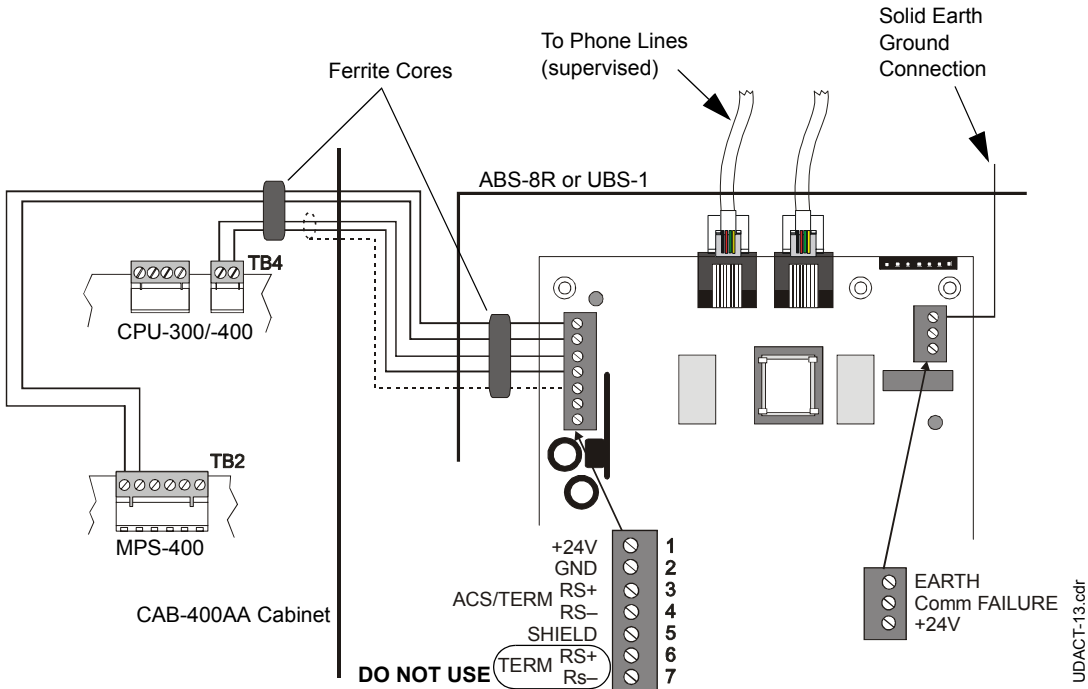
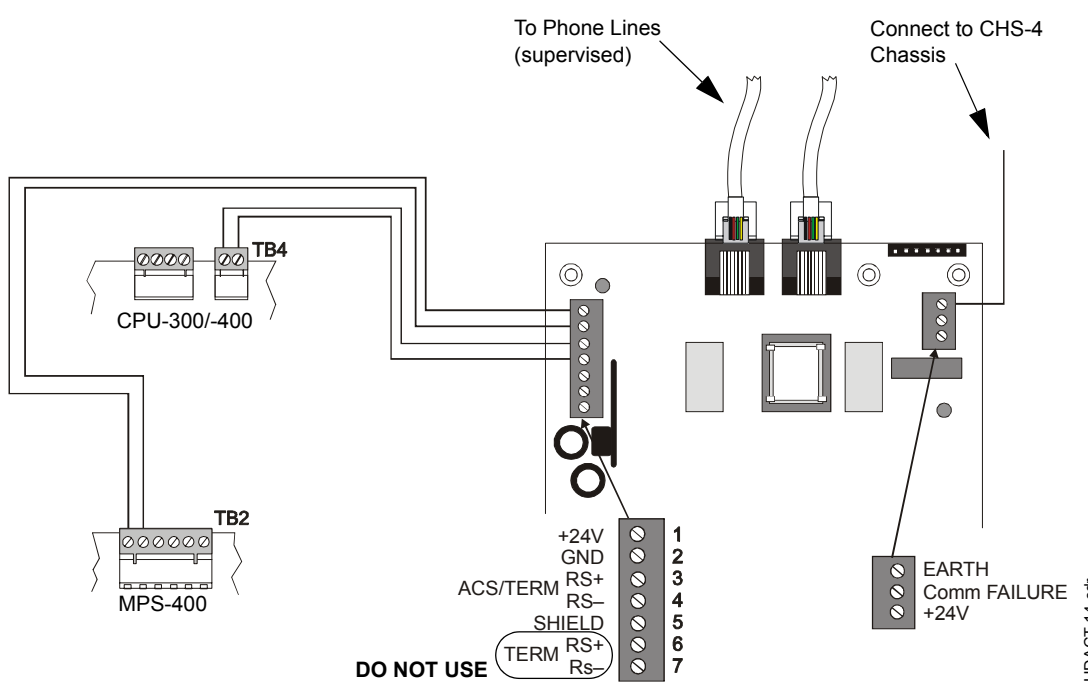

Figure 21 UDACT and AFP-300/AFP-400 in CAB-AA
Figure 22 UDACT and AFP-300/AFP-400 in CAB-3/4
Refer to Figure 21 and Figure 22 on page 86.
2. Recommended wire is 12 AWG (3.25mm²) to 18 AWG (0.75mm²), twisted pair, shielded cable. Connect only one end of shield: a) shield may be connected to cabinet (earth ground) at fire alarm panel, or b) shield may be connected to TB1 Terminal 5 (Shield) at UDACT as shown in Figure 21.